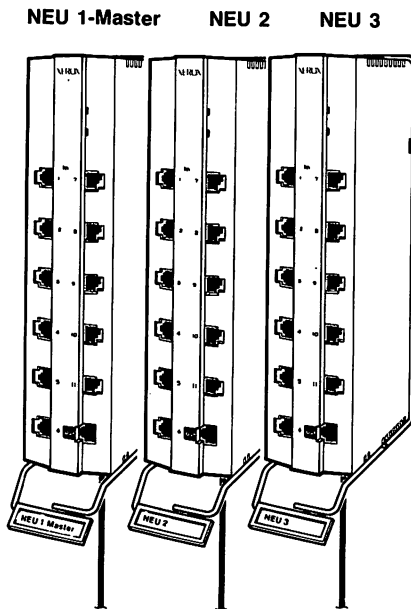

Figure 2-8. Labelling a row of NEUs
- Label additional units from left to right in numerical order, as illustrated in Fig. 2-8.